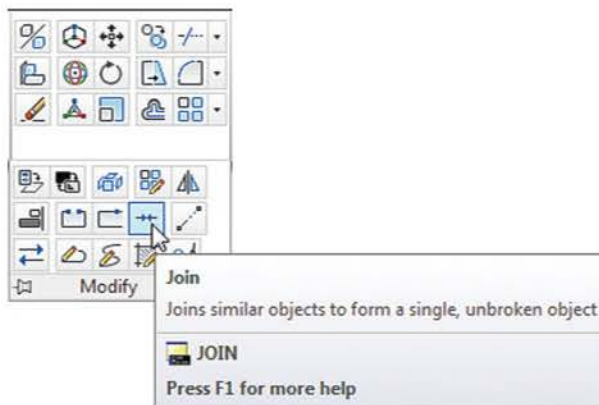

Fig. 6.33 The Join tool icon from the Home/Modify panel
2. Call the **Join** tool – either *click* the **Join** tool icon in the **Home/Modify** panel (Fig. 6.33), select **Join** from the **Modify**